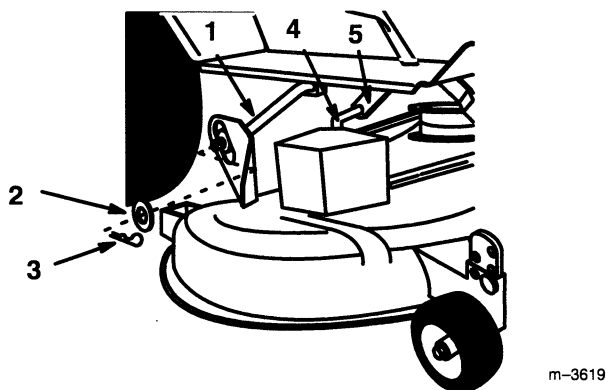

Figure 13
5. Remove 2-9/16" hairpin cotter and 1/2" washer from rear link and remove from attachment lift (Fig. 13).
6. Remove (2) 3-3/8" hairpin cotters and (2) 3/4" washers from rear lift arms (Fig. 13).
7. Slide deck right, off rear lift arms (Fig. 13).